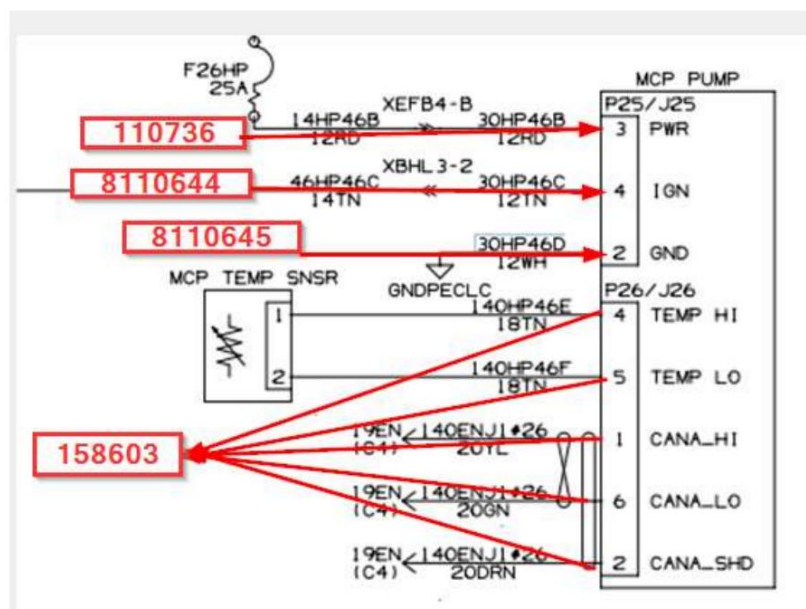

Figure 7: MCP Pump Connector Pins Part Numbers
15. Disconnect the two connectors from the MCP coolant pump to the bus side harness. Inspect the connector pins for corrosion. If corrosion is found replace the connector pins as required and follow the Figure 7 for the Pins P/N. Please use the Inspection sheet in Appendix A to record any buses that showed signs of corrosion in the connectors. (NOTE: Please reuse the pin locks)